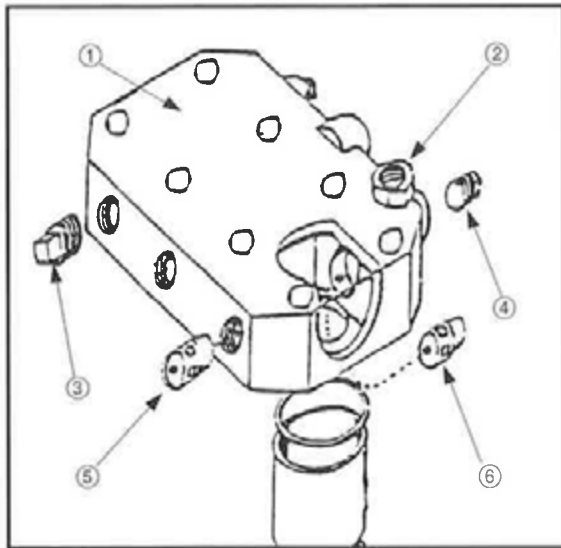
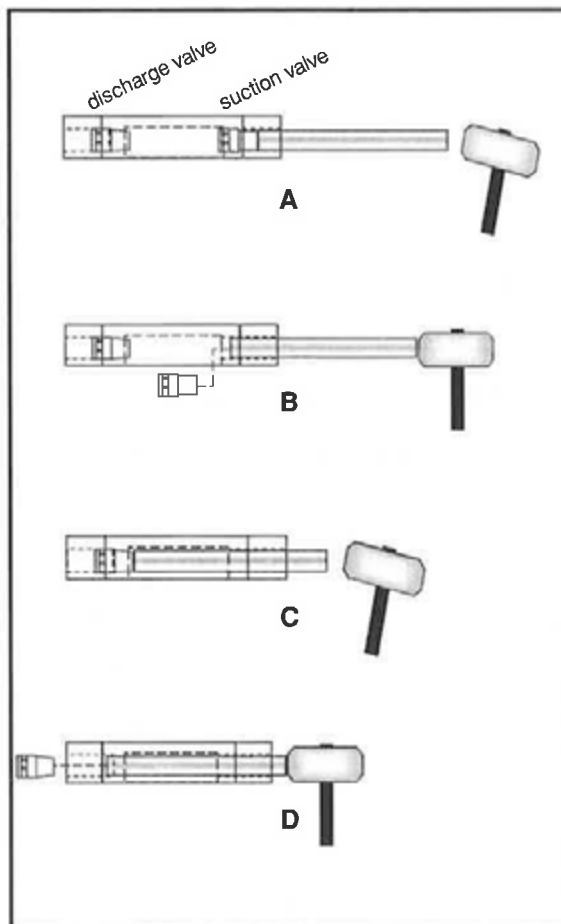

FIG 8.64
FIG 8.65
- 1) Remove the valve chamber (fig. 8.64, item 1) from pump case by unscrewing valve chamber nuts (fig. 8.64, item 2) and lifting off of studs (fig. 8.64, item 7).
- 2) Gently drive the suction valve (fig. 8.64, item 6) loose and push it into the valve chamber area and remove it (fig. 8.65, A & B).
- 3) Continue through the valve chamber and repeat for procedure for the discharge valve (fig. 8.64, item 5), driving it through the discharge opening (fig. 8.65, C & D).